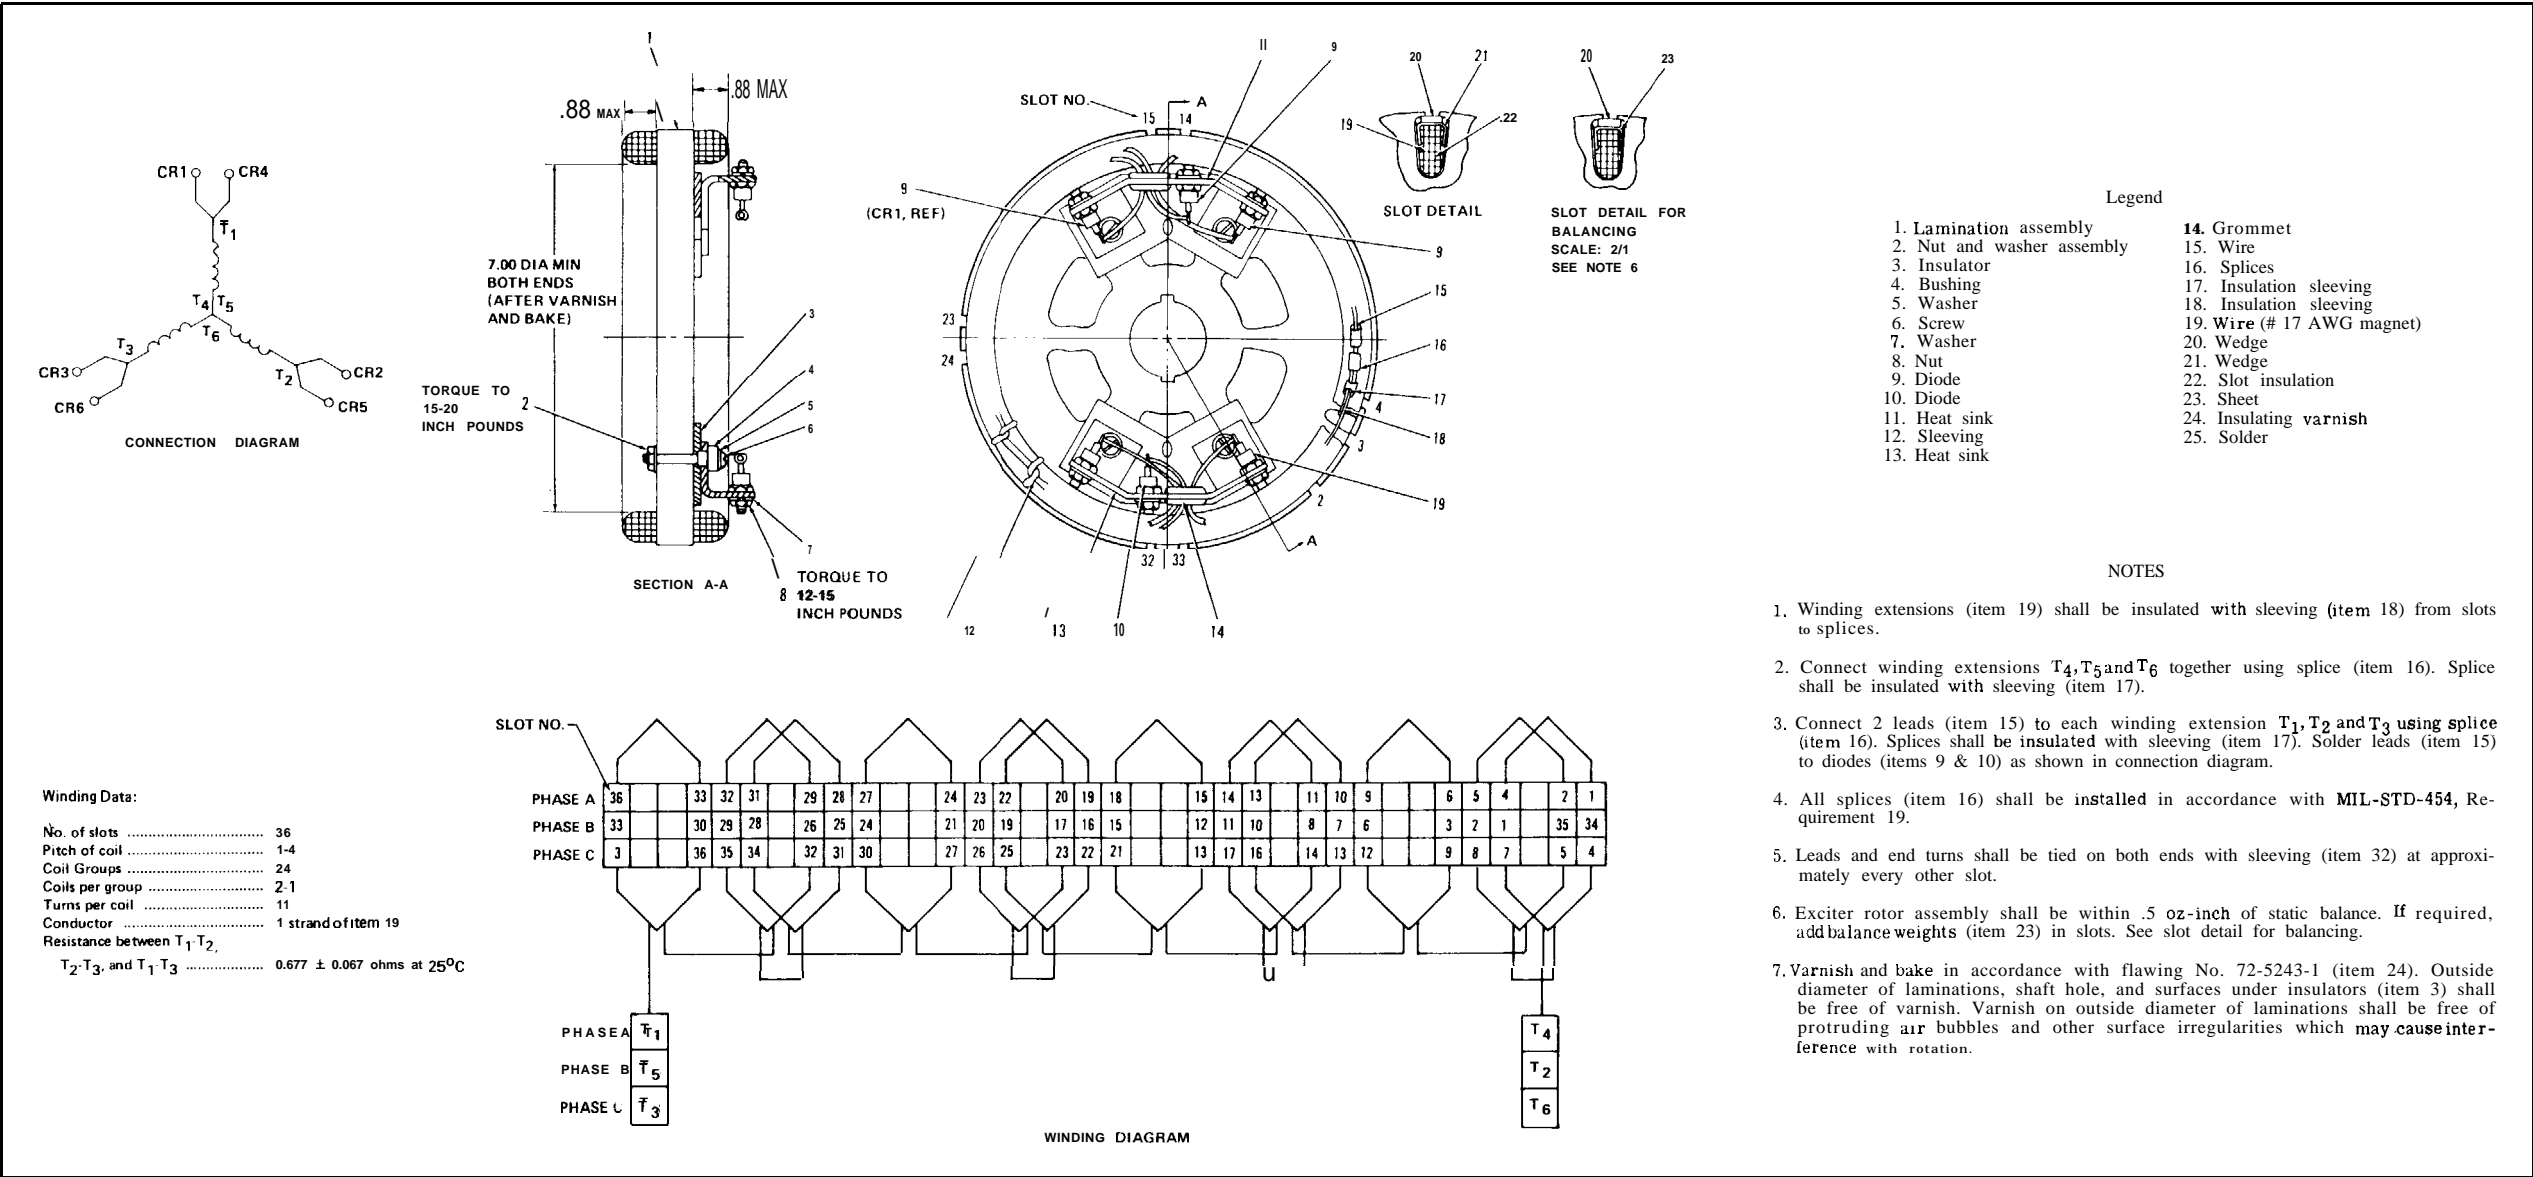

Figure 8-4. Exciter Rotor Assembly Winding Data
(3) Exciter rotor assembly (see figure 8-4).